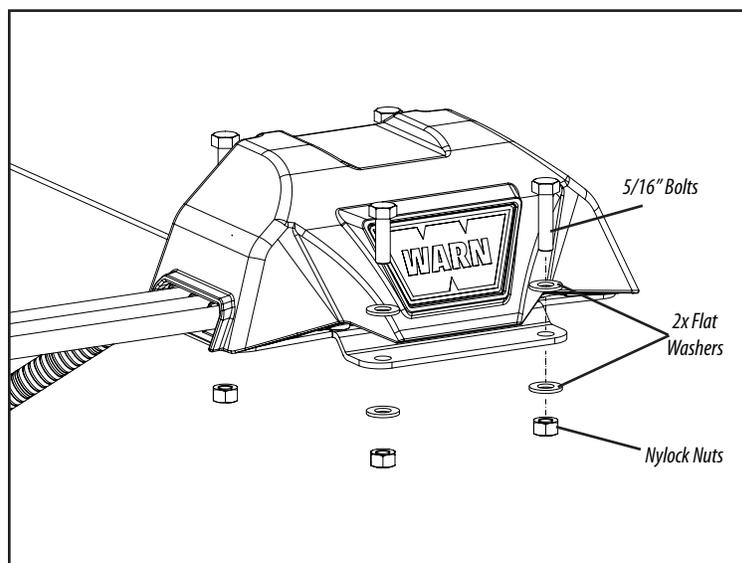

Figure 2
4. Mount the bracket using the supplied 5/16" bolts with two (2) flat washers and nylock nuts as shown. Torque to 17 lb. ft (23 N.m). See Figure 2.